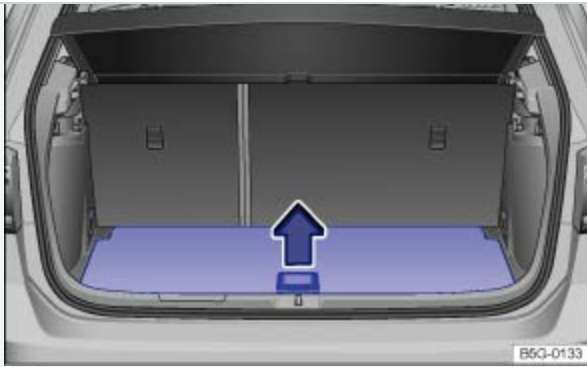
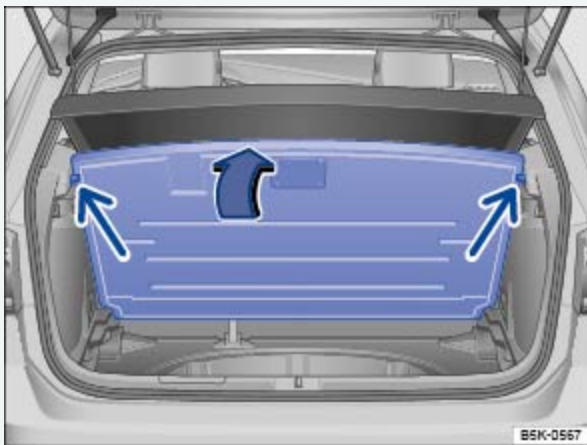

Fig. 105 In the luggage compartment: Opening the variable luggage compartment floor.
Fig. 106 In the luggage compartment: Variable luggage compartment floor folded up.
- To *open* the luggage compartment floor, lift the recessed handle ⇒ Fig. 105 and guide the floor upward until it is held in position by the stops on either side of the luggage compartment ⇒ Fig. 106 (arrows).
- Grasp the recessed handle ⇒ Fig. 105, lift the luggage compartment floor, and pull it rearward out of the guides on the sides of the luggage compartment.
- Grasp the recessed handle ⇒ *Fig. 105*, lift the luggage compartment floor, and pull it rearward out of the guides on the sides of the luggage compartment.